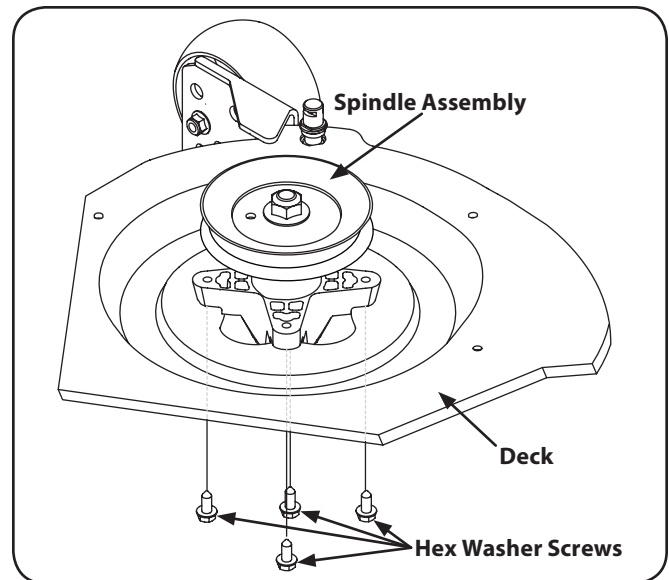

Figure 7-14
4. Using a ½" wrench or socket ratchet remove four hex washer screws securing the spindle assembly to the deck. See Figure 7-14.